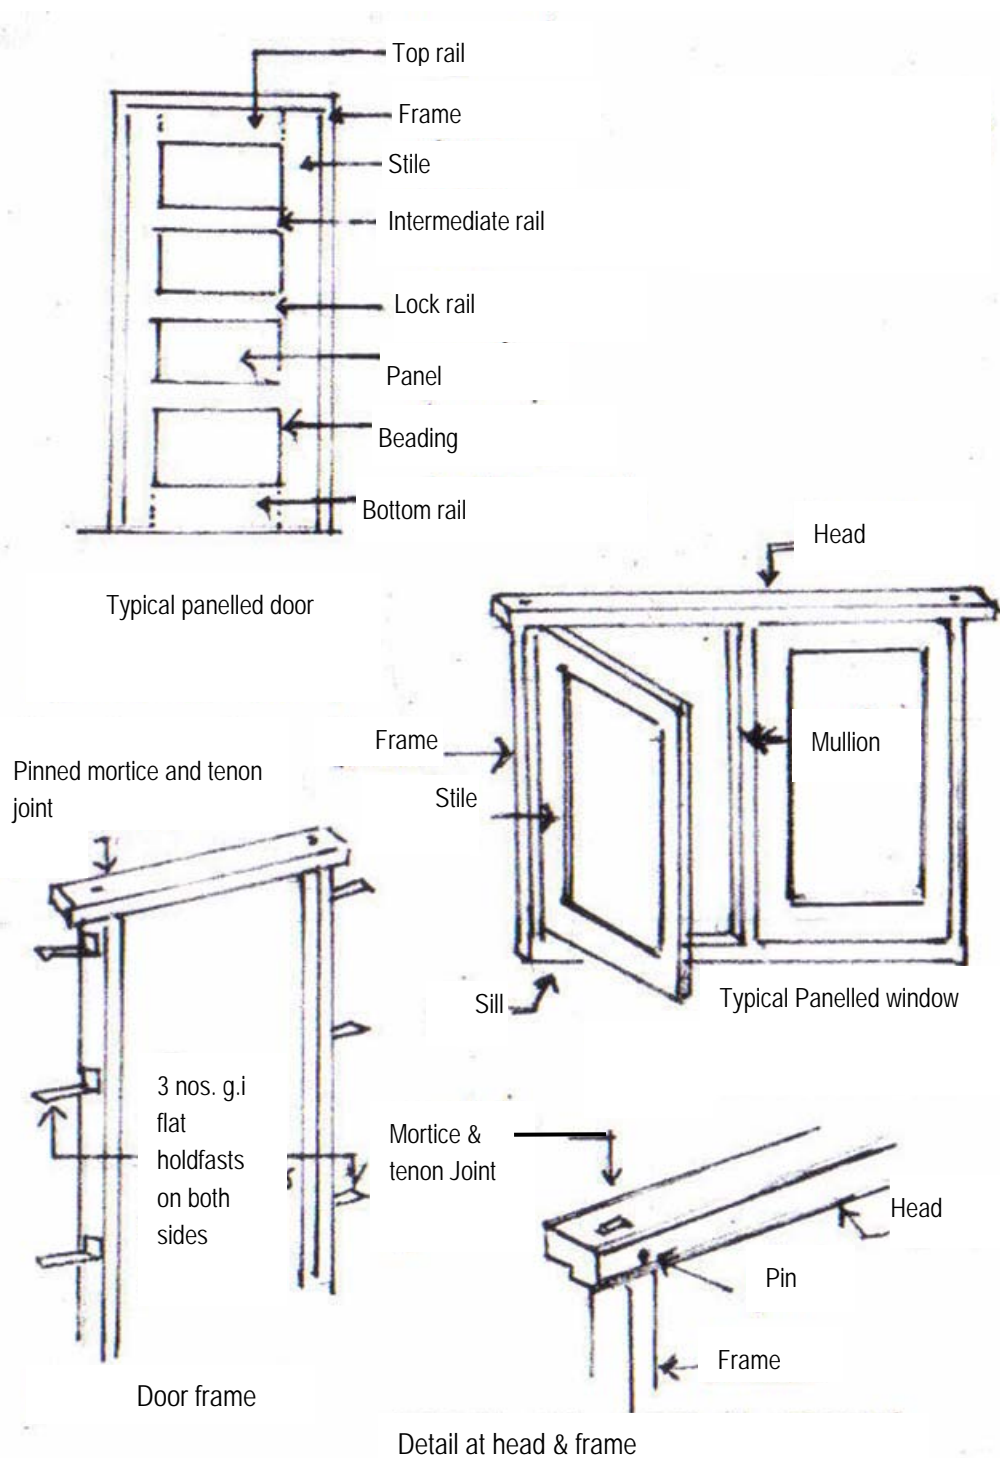

Fig 27- **Windows & doors**
- Made sure that mortice and tenon joints are simple, neat and strong, fitting fully and accurately without wedging or filling (See fig. 27)
- Made sure that the frames are fitted with needed hold-fasts or as specified by the engineer (See fig. 27)
See figure 27 above for illustrations of above-named elements in doors and windows